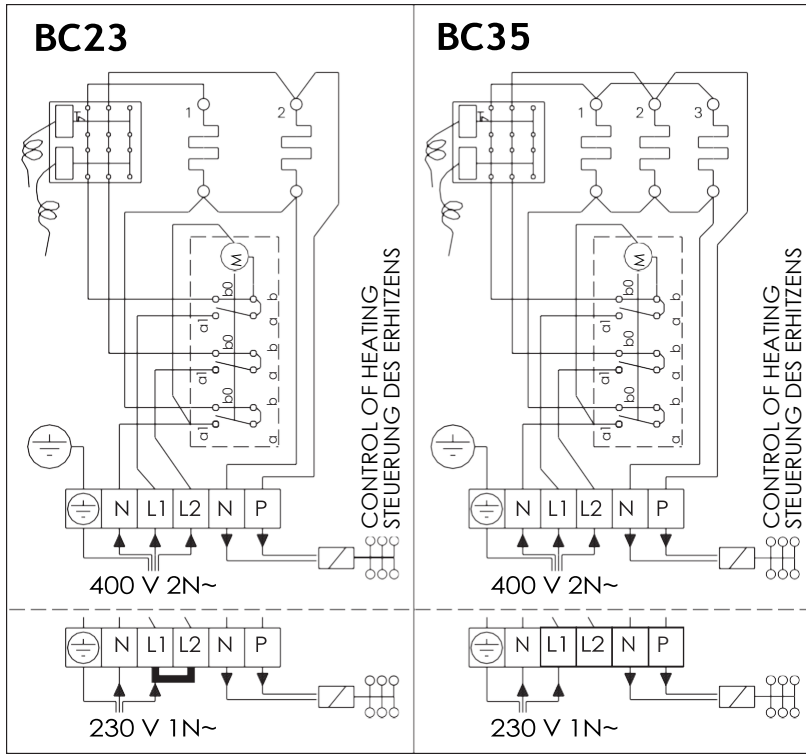

Figure 9. Electrical connections of heater BC
- In addition to supply connectors, the BC heaters are equipped with a connector (P), which makes the control of the electric heating possible (figure 9). Voltage control is transmitted from the heater when it is switched on. The control cable for electrical heating is brought directly into the junction box of the heater, and from there to the terminal block of the heater along a rubber cable with the same cross-section area as that of the connecting cable.